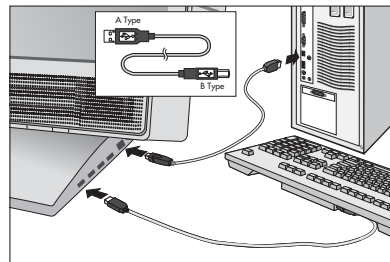

Figure F.1
7. Using the USB cable, connect the B type connector to the USB upstream port on the right side of the monitor and A type connector to the downstream port on the computer (**Figure F.1**). If you are using the cord from the USB device, use one of the downstream port on the side of the monitor.